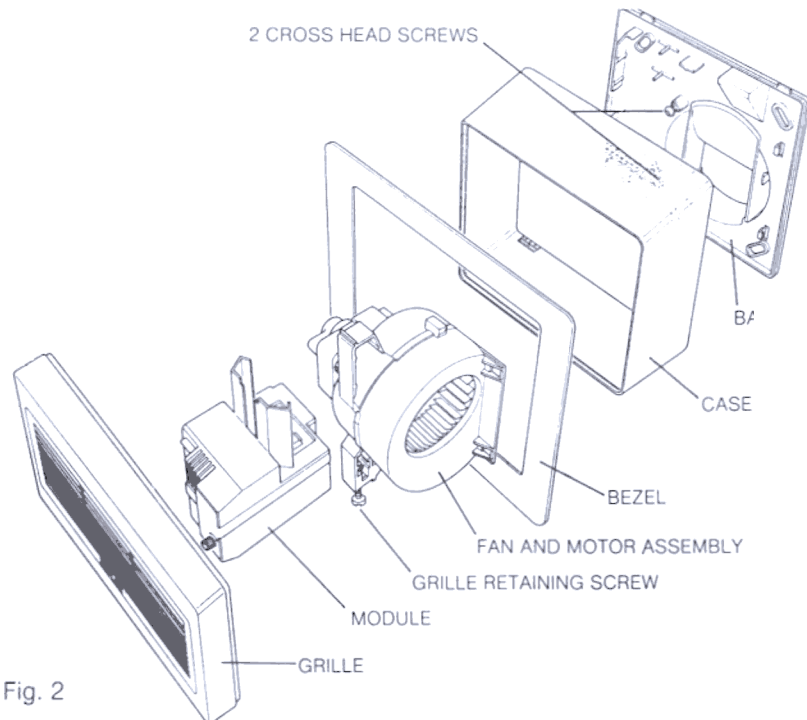

Fig. 2
**5.1** Dismantle the unit by first undoing the slotted screw on the underside of the grille a few turns and removing the grille by pivoting it about its top edge. Remove the module by lifting and pulling it out. Release the fan and motor assembly by undoing the two cross-headed screws several turns and sliding the assembly to the right (see Fig. 2). To ease installation it is best to spring the backplate out of the case.
**7.4** Dismantle the unit (see Section 5.1 and Fig. 2).
- 8.4** Dismantle the unit (see Section 5.1 and Fig. 2). For this installation it is best not to separate the case and backplate.
**9.2** Dismantle the Loovent or Humidivent (see section 5.1 and Fig. 2). For window installation, do not separate the case and backplate.